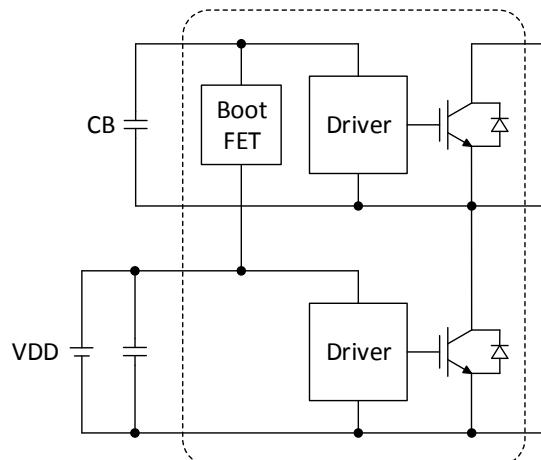

Figure 19. Bootstrap Circuit
VBU, VBV VBW	The VBX pins are internally connected to the positive supply of the high-side drivers. The supply needs to be floating and electrically isolated. The boot-strap circuit shown in Figure 19 forms this power supply individually for every phase. Due to integrated boot FET only an external boot capacitor (CB) is required.